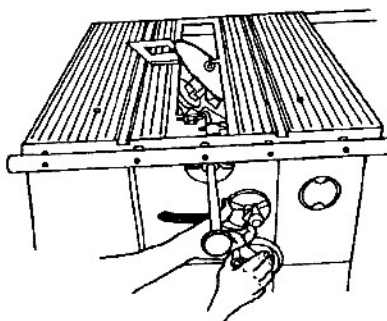

Fig. B-38
37. Slightly loosen the blade bevel lock. Adjust the saw blade until it is 45° to the table, then tighten the blade bevel lock. See Fig. B-38.